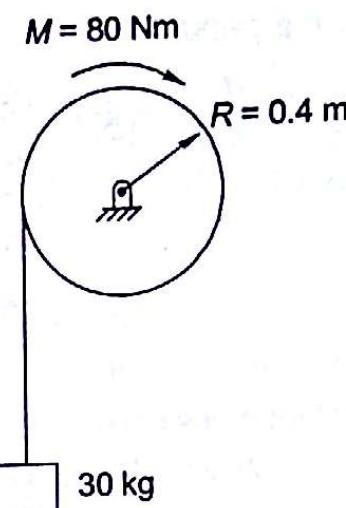

Fig. 19.19
19.5 Drum shown in Fig. 19.19 rotates in frictionless bearings A mass of 30 kg attached to the string wound as shown falls through a distance of 2 m. A constant torque of $M = 80 \text{ Nm}$ is applied on drum of radius 0.4 m. What work is done on system?